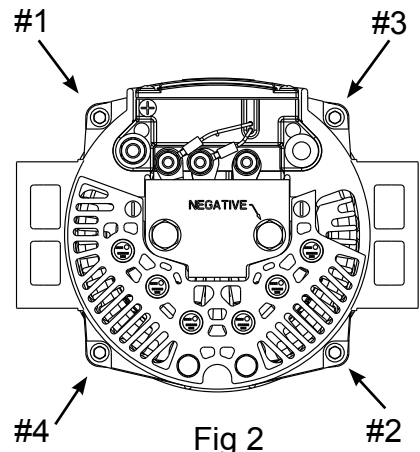

Fig 2
Step 3: Insert through bolts and torque in a cross pattern to 90-110 in-lbs. See Fig 2